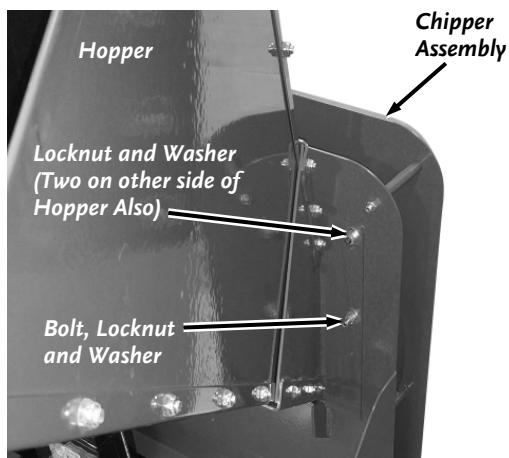

Figure 49b: Pro-XL
- a. Remove the Locknut and Washer from the Bolt on the lower right side of the Hopper using two 1/2" Wrenches (**Figure 49b**). The Bolt can be left in place.